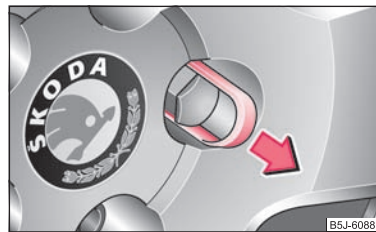

Fig. 153 Changing a wheel: Pull off cap from the wheel bolt
- Pull the cap off with the **plastic clip** ⇒ fig. 153.